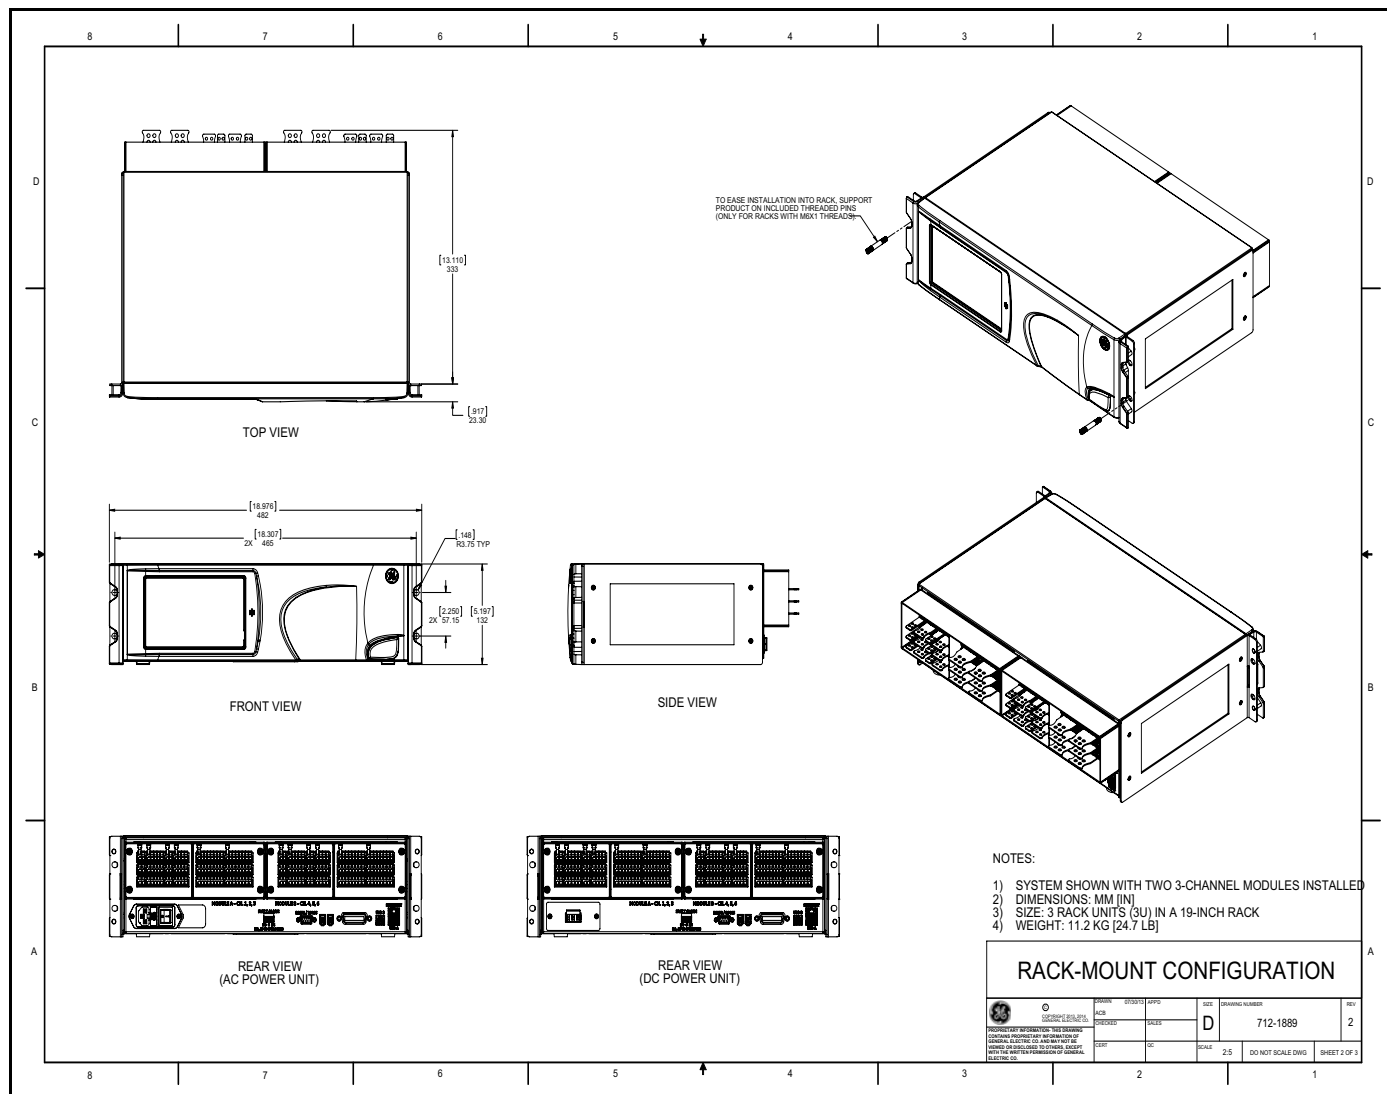

Figure 2: Drawing 752-364, Sheet 2 of 2
- The installation should comply with controlled drawing 752-364 (see *Figure 1* below and *Figure 2 on page 2*).